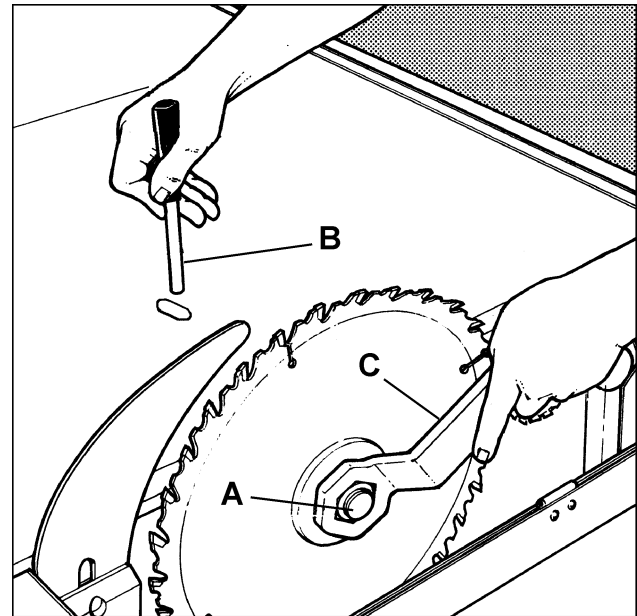

FIGURE 17
3. Raise main saw blade to its highest position and place spanner (C-Fig. 17) over the arbor nut (A-Fig. 17).
4. Insert the locking pin (B-Fig. 17) into the hole on the saw table and turn the arbor with the spanner until the locking pin engages the hole in the saw arbor pulley.
7. Remove locking pin (B-Fig. 17) and close blade cover.